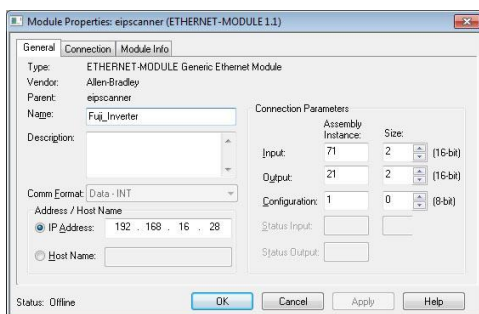

Figure 47: AC/DC Drive Profile Generic Ethernet Module Configuration
- 1) Complete all the steps in section 10.2.11. Please note that the Assembly Input Instance must be changed to 71 and the Assembly Output Instance must be changed to 21. Refer to Figure 47.